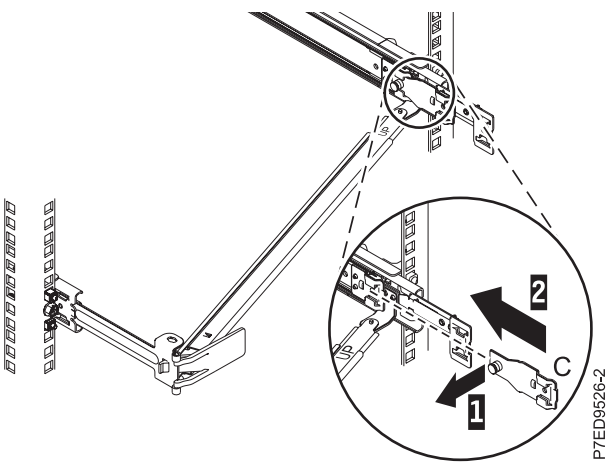

Figure 16. Installing the mounting bracket into the mounting bracket into the slide rail
5. Attach the mounting bracket (C) to the slot on the inside of the right slide by pulling the pin out (1), and sliding the mounting bracket (C) into the slide rail until the spring-loaded pin snaps into place (2), as shown in Figure 16.